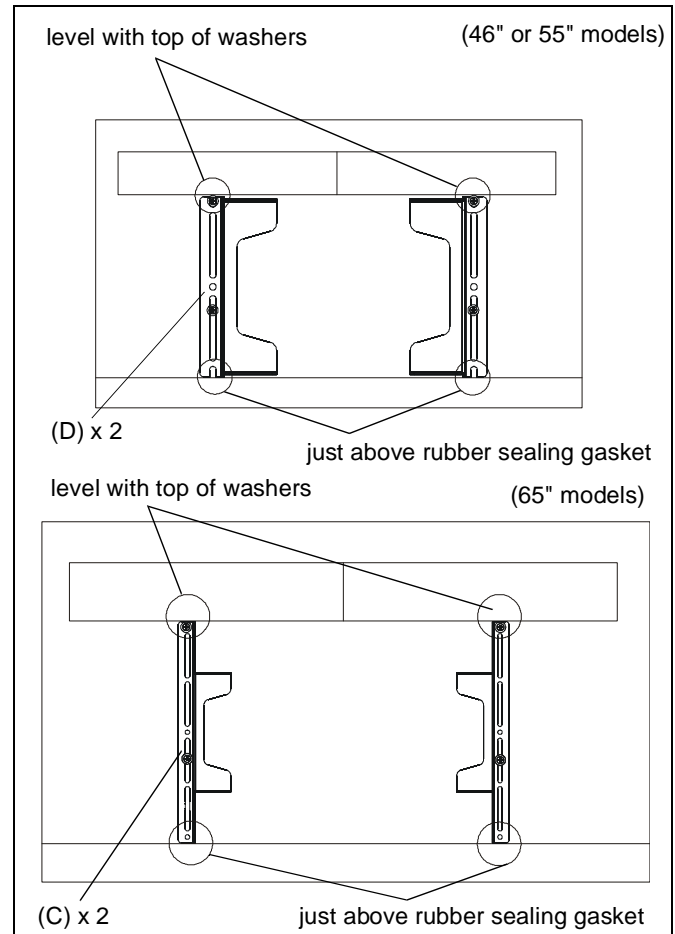

Figure 5
3. Place interface brackets (C or D) on the back of the display so that they align with the holes on the display. Use removed screws and washers to loosely attach interface brackets to display. (See Figure 5)
4. Align bottom of the brackets with rubber sealing gasket and the top of the brackets with the top of the washer. (See Figure 5)